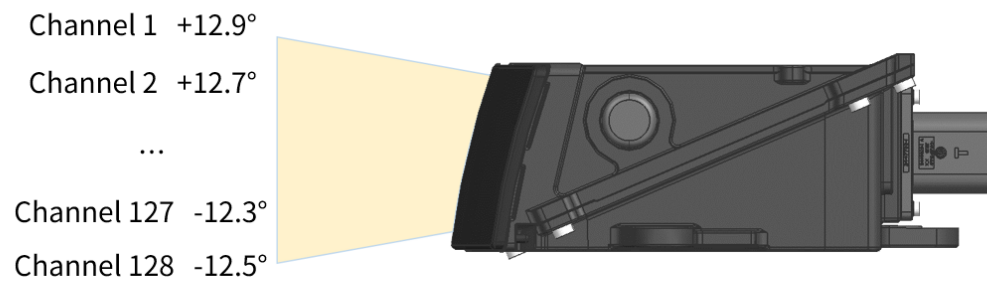

Figure 4. Channel vertical distribution
- The designed vertical resolution is  $0.2^\circ$  across the FOV, as shown in Figure 4. Channel vertical distribution and detailed in Appendix A Channel distribution data.